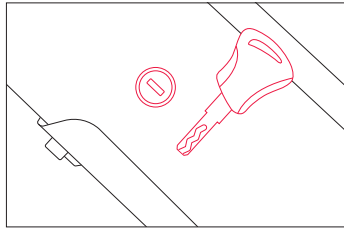

Figure 2
**NOTICE:** Please keep your key and its spare in a safe place. Once lost, they are difficult to copy. The key number correlates to the number on the keyhole (fig. 2). If you have lost the keys, you can give us the key number to get new keys.